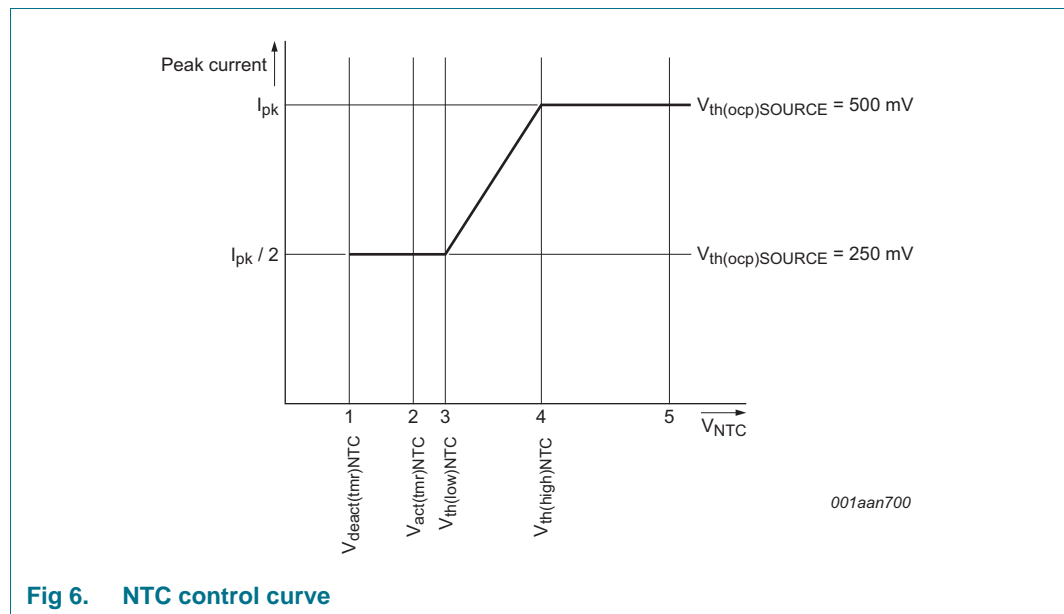

Fig 6. NTC control curve
Alternatively, the pin can be used as an input to disable/enable light output using a digital signal (PWM dimming). The pin has an internal current source which generates a current $I_{offset(NTC)}$. An NTC resistor, for monitoring the LED temperature, can be directly connected to the NTC pin. Depending on the resistance value and the corresponding NTC pin voltage, the converter reacts as shown in Figure 6
When the voltage on the NTC pin is higher than $V_{th(high)NTC}$, see Figure 6\(4\), the converter delivers nominal output current. When the voltage is lower than this level, the peak current is gradually reduced until $V_{th(low)NTC}$ is reached, see Figure 6\(3\). The peak current is now half the peak current of nominal operation. When $V_{act(tmr)NTC}$ is passed, see Figure 6\(2\), a timer starts to run which distinguishes between the following situations:
- If the low-level $V_{deact(tmr)NTC}$ is not reached within time $t_{to(deact)NTC}$ Figure 6\(1\), LED overtemperature is detected. The IC stops switching and attempts to restart from the HV pin voltage. Restart takes place when the voltage on NTC pin is higher than $V_{th(high)NTC}$, see Figure 6\(4\). It is assumed that the reduction in peak current did not result in a lower NTC temperature and LED OTP is activated.
- If the low-level $V_{deact(tmr)NTC}$ is reached within the time $t_{to(deact)NTC}$ Figure 6\(1\), it is assumed the pin is pulled down externally. The restart function is not triggered. Instead, the output current is reduced to zero. PWM dimming can be implemented this way. The output current rises again when the voltage is higher than $V_{deact(tmr)NTC}$.
The NTC pin can be used to make a soft start function. During switch-on, the level on the NTC pin is low. By connecting a capacitor (in parallel with the NTC resistor), a time constant can be defined. The time constant causes the level on the NTC pin to increase slowly. When passing level $V_{th(low)NTC}$ Figure 6\(3\), the convertor starts with half of the maximum current. The output current slowly increases to maximum when $V_{th(high)NTC}$ Figure 6\(4\) is reached.